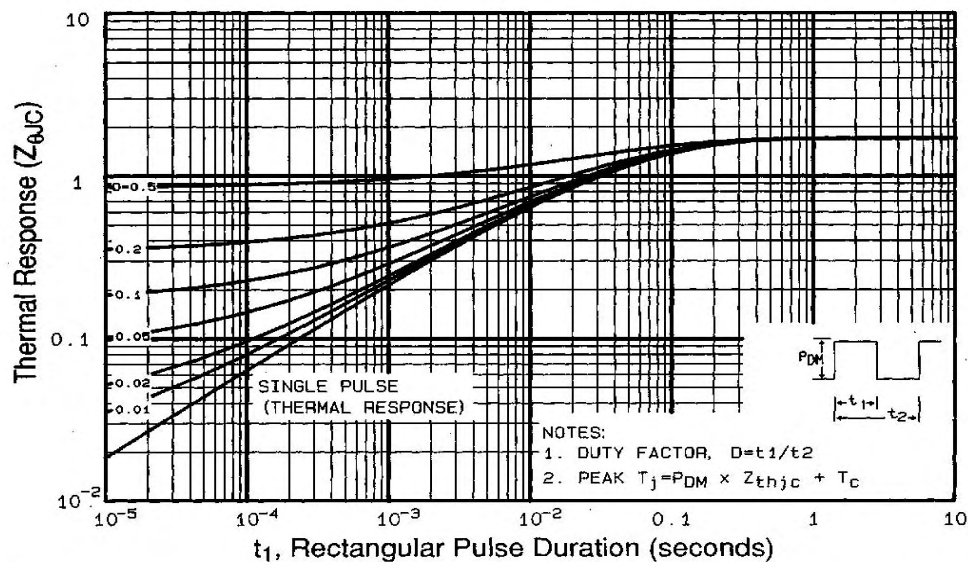

Fig 11. Maximum Effective Transient Thermal Impedance, Junction-to-Case
① Repetitive rating; pulse width limited by max. junction temperature (See Figure 11)
③ $I_{SD} \leq 14A$, $di/dt \leq 140A/\mu s$, $V_{DD} \leq V_{(BR)DSS}$, $T_J \leq 175^\circ\text{C}$